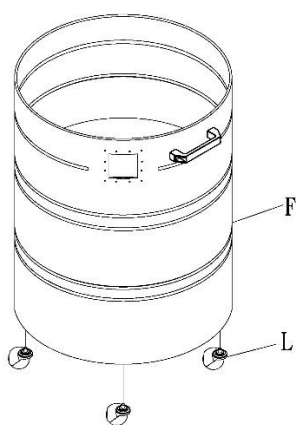

Figure 4
4. Install four casters (L) into the threaded nuts beneath drum (F). See Figure 4.